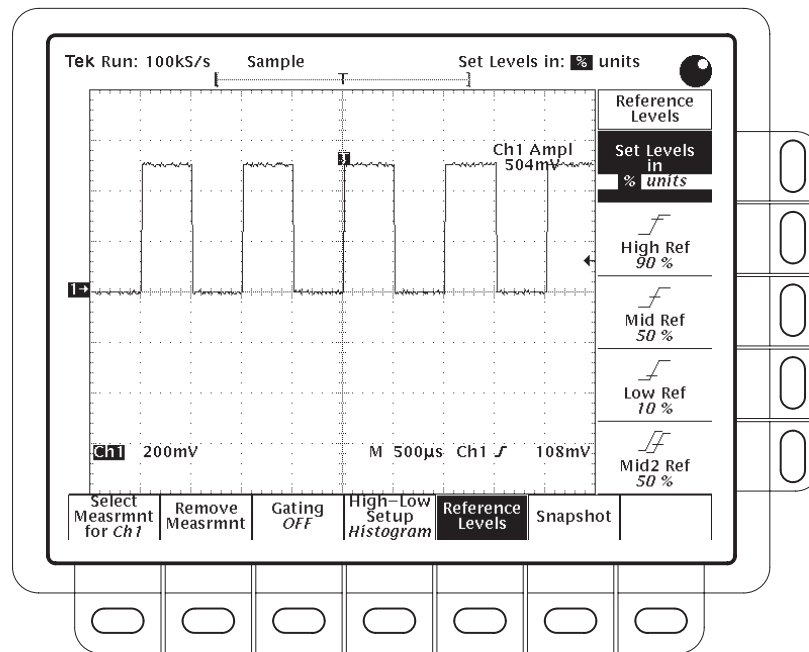

Figure 3-41: Measure Menu — Reference Levels
1. Press **MEASURE** → **Reference Levels** (main) → **Set Levels** (side) to choose whether the References are set in % relative to High (100%) and Low (0%) or set explicitly in the units of the selected waveform (typically volts). See Figure 3-41. Use the general purpose knob to enter the values.